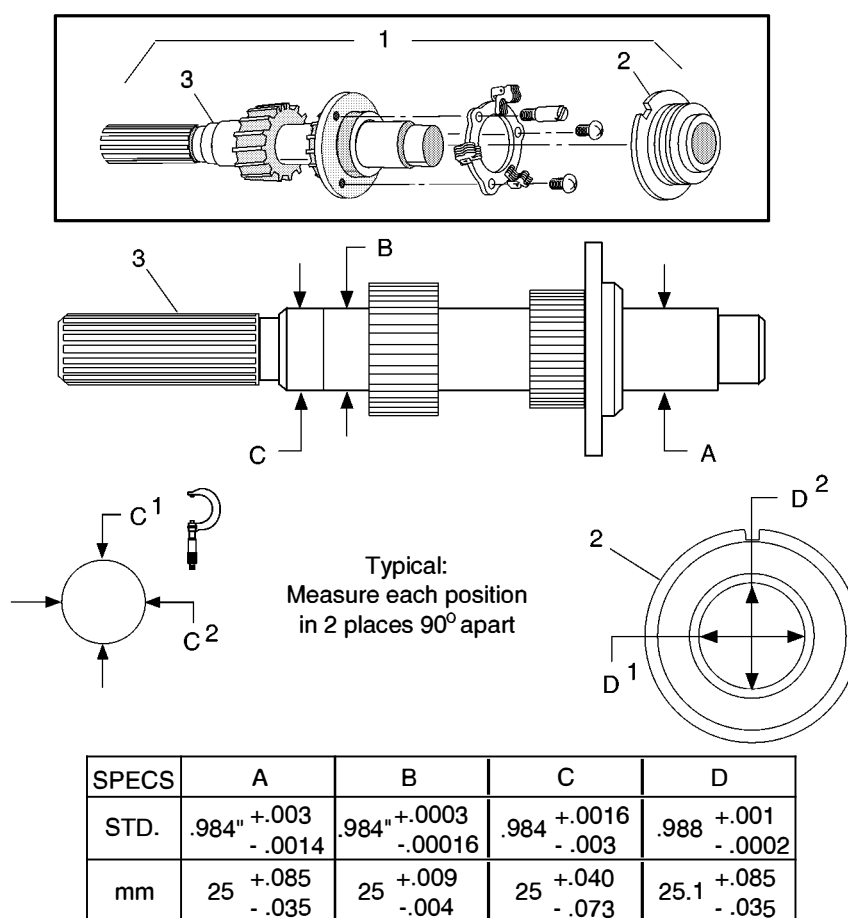

Fig. B-7 Input Shaft Inspection
1. Inspect the input shaft assembly (1) (Ref Fig. B-7 on page B-4).
- A. Inspect the governor sleeve (2) for excessive wear or damage of any kind.
- B. Inspect input shaft (3) for chipped splines or gears, excessive wear, or damage of any kind.